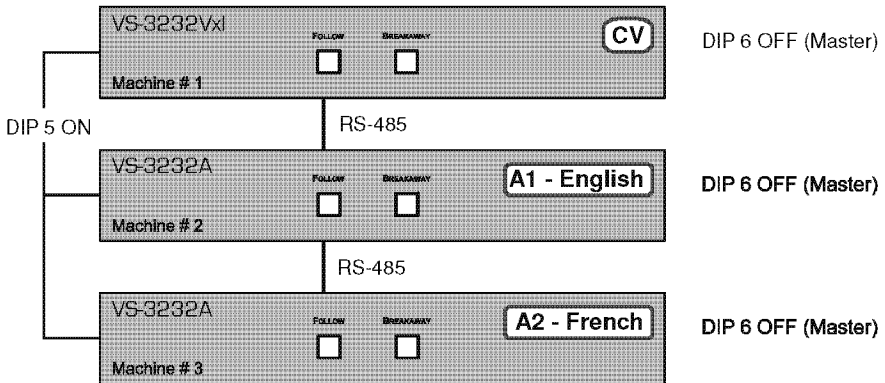

Figure 8: Connecting in the Follow-System Configuration Setup
The example illustrated in Figure 8 shows three 32x32 matrix switchers: one composite video (CV) switcher (the **VS-3232Vx1**) and two **VS-3232A** audio switchers (A1 for the “English” language, and A2 for the “French” language). DIP 5 is set to ON and DIP 6 is set to OFF on all the switchers. Each unit within the system is set to a different machine number (see section 7.5.1).